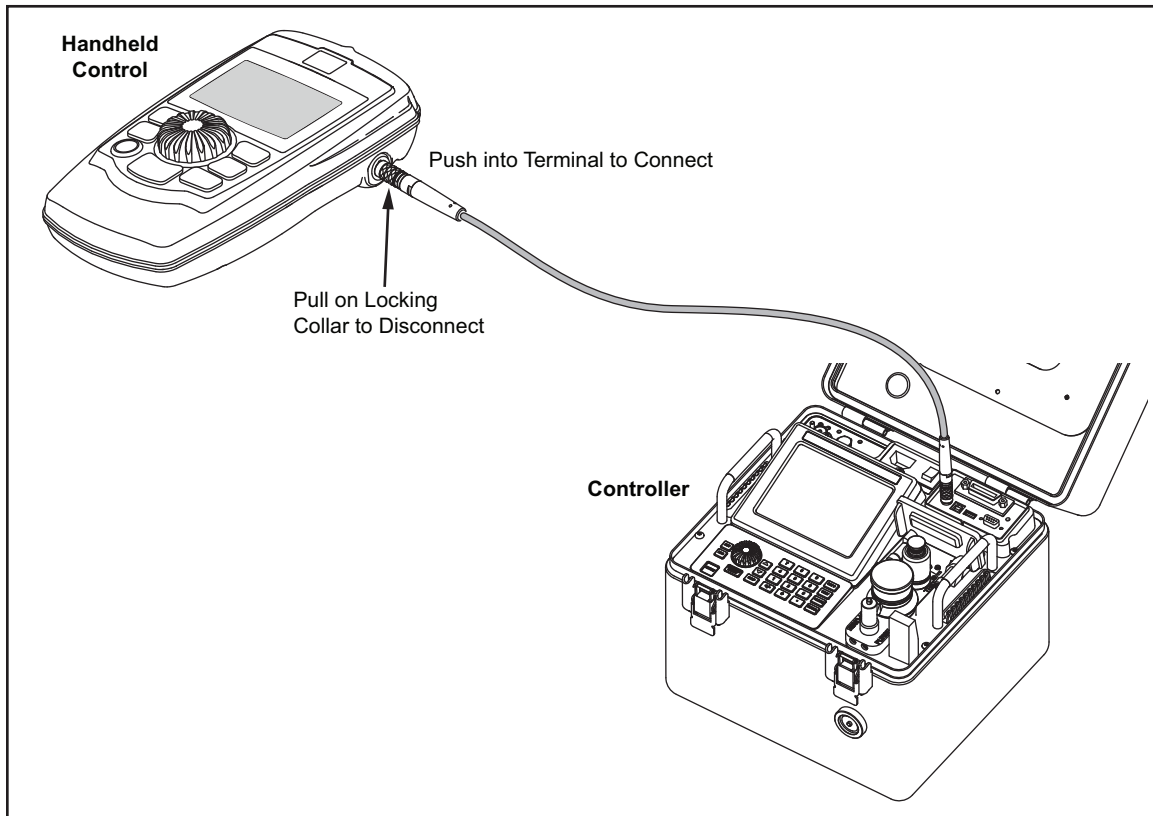

Figure 2-8. Handheld Control Connection
3. Connect the other end of the cord to the Handheld (see Figure 2-8).